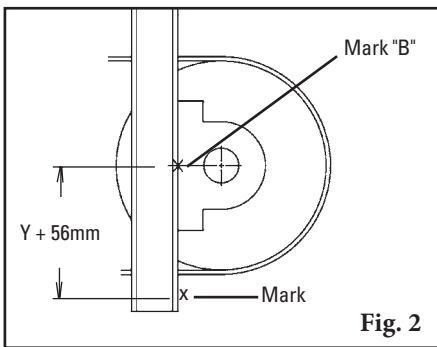

Fig. 2
- 2c. Measure down the given Y dimension plus 56mm and mark (Fig. 2).** This mark indicates the top location of support material to be added for installing the cleaner mounting brackets.